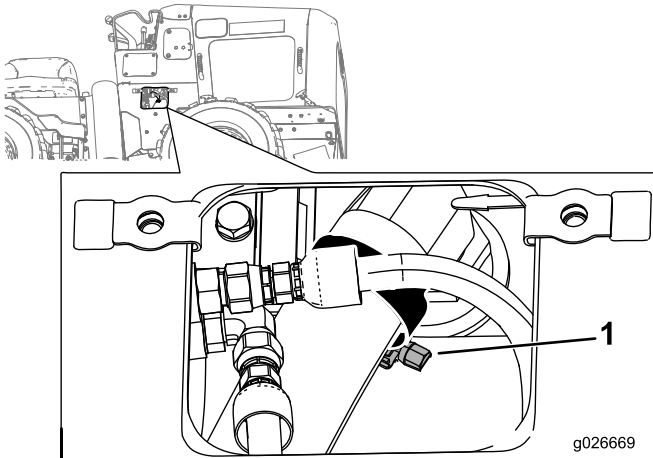

Figure 39
5. Remove the lower right side cover plate and loosen the hose clamp holding the suction hose to the hydraulic tank (Figure 39).